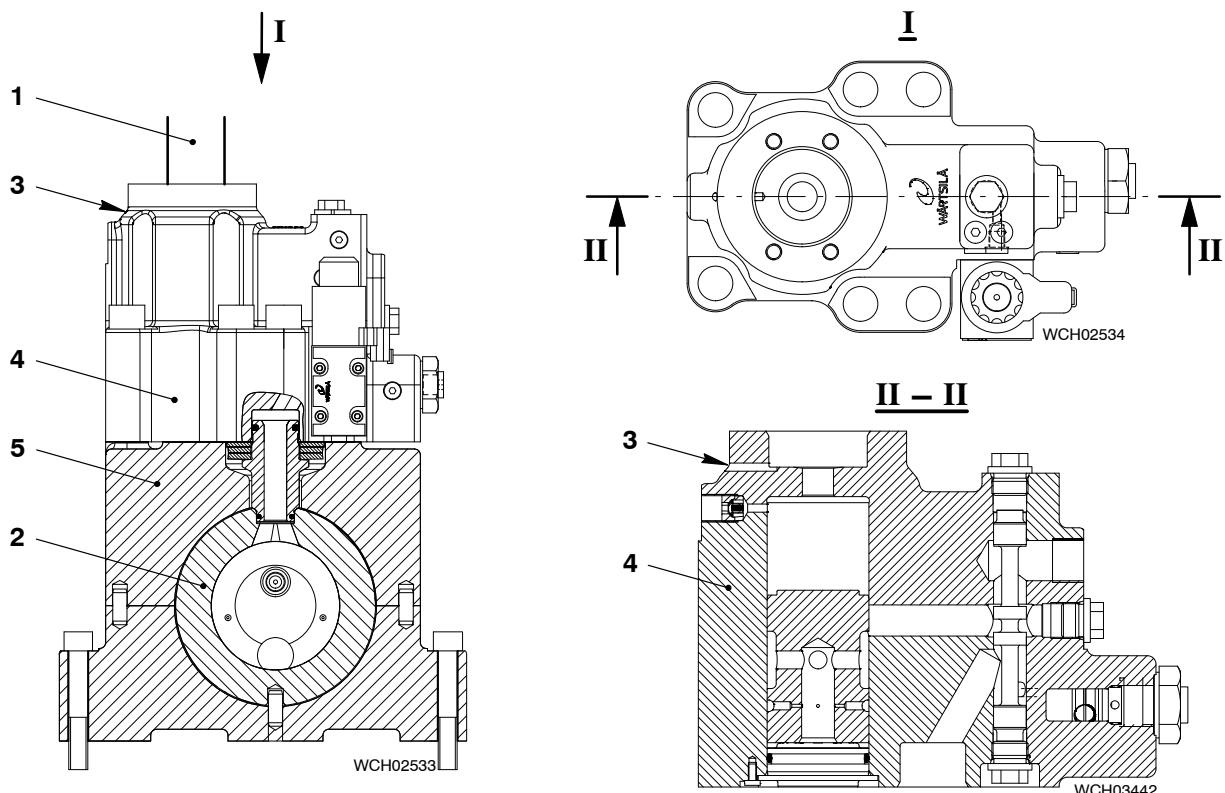

Fig. 4: Leakage Inspection Point – VCU
If oil flows from the leakage inspection point (3, Fig. 4) in the VCU, the related hydraulic pipe (1) has a leak (for more data, refer to paragraph 4.3).